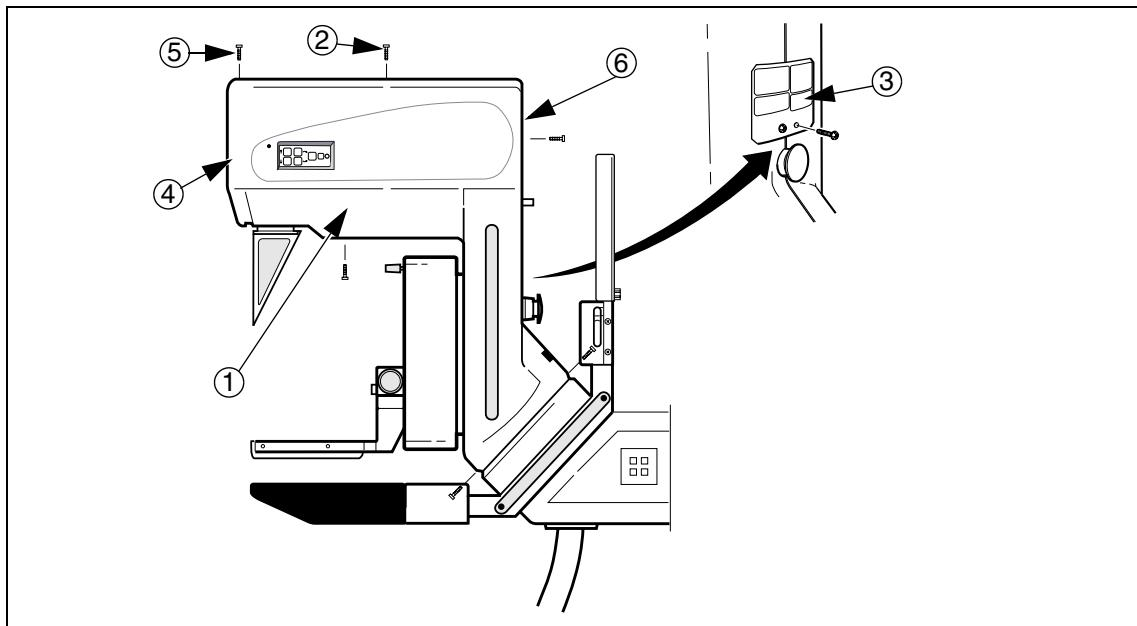

Fig. 10 Covers and sign
1. Mount the side covers (1/Fig. 10) with six screws (2/Fig. 10) on each side. Start with the right side.
**Do not forget to fit the sign (3/Fig. 10) when mounting the side covers. Use the two longer screws.**
Make sure that the longer screws are not used at the back of the covers at the upper location (6/Fig. 10) since this may damage the board underneath the cover.
2. Carefully fit the front cover (4/Fig. 10) so that both openings engage with the lugs of the side covers.
4. Fasten the front cover to the side covers with two short screws (5/Fig. 10).